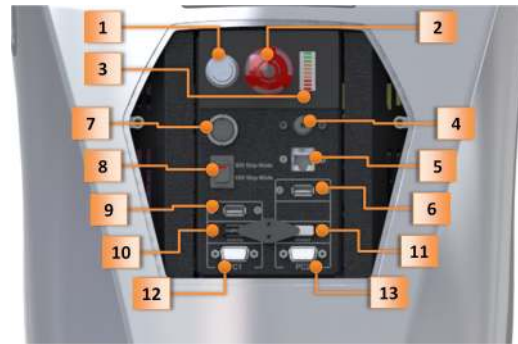

Figure 20: Second level
- Second level: after removing the cover of service panel, the USB and VGA ports of the Control and Multimedia computers are accessible (Figure 20).